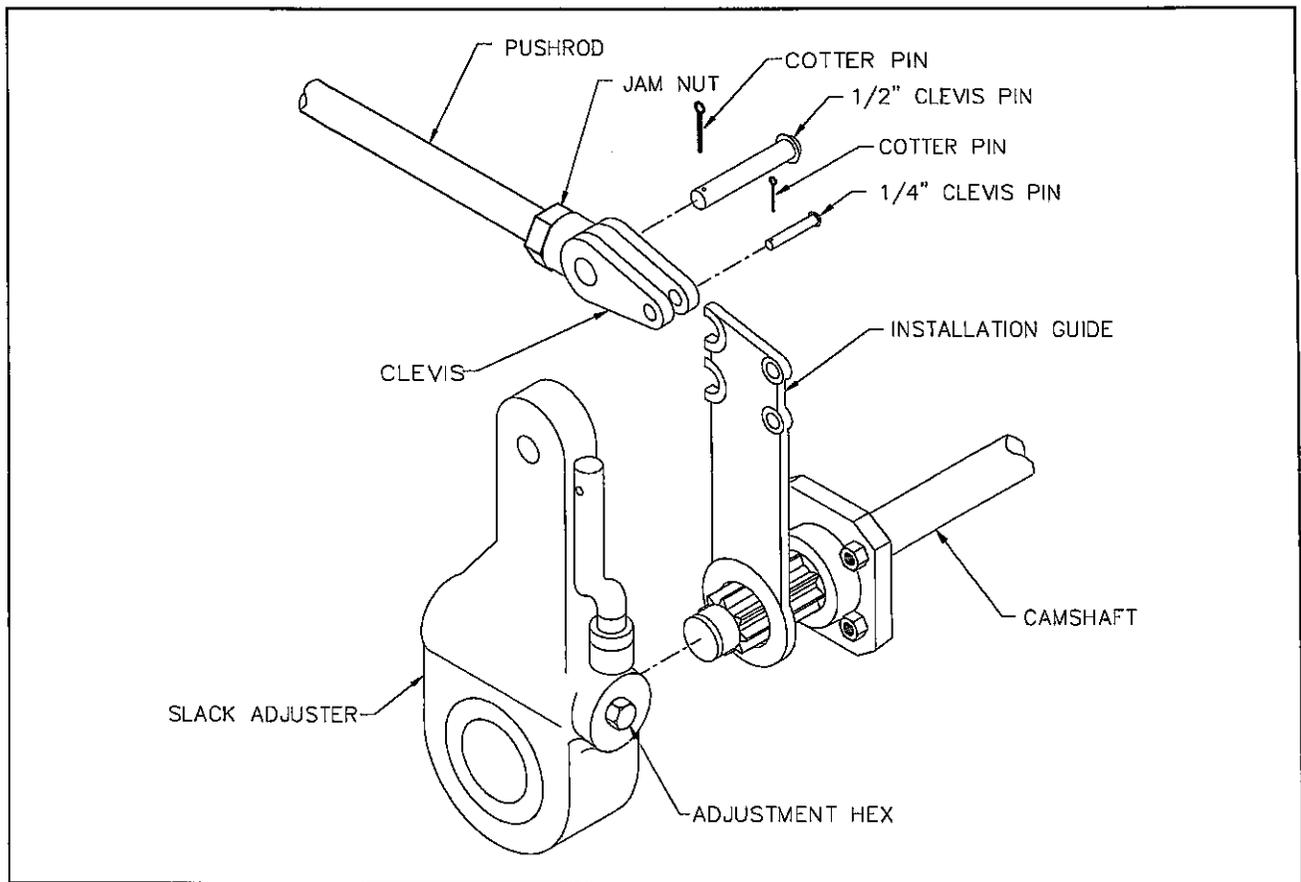

Figure 4-10 Slack Adjuster (Crewson Brunner)
e. Replacing Crewson Brunner Slack Adjuster (See Figure 4-10)